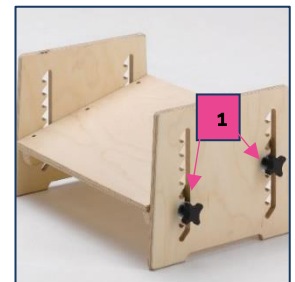

Fig. 4.2.8-1
1. Loosen the handwheels located on the side of the Footrest (see Fig. 4.2.8-1 Ref 1).